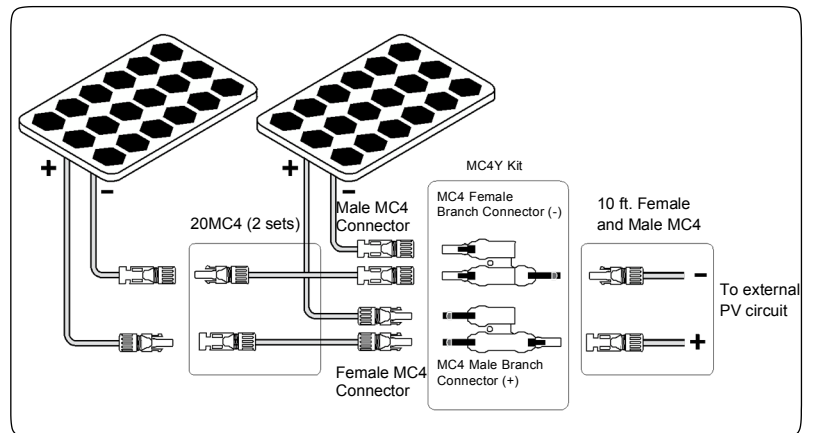

Fig. 8.2. Connecting solar modules in parallel with additional module.
4. Complete the connections as shown in Fig. 8.2.